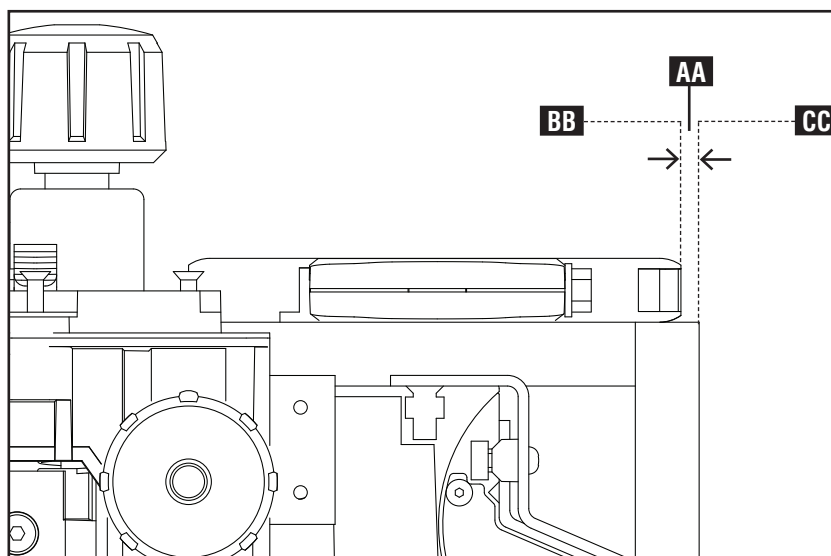

Fig. E24
NOTE: In Fig. E24, (BB) is the front edge of the fingers and (CC) is the front edge of the vertical board.
TO FIX: Loosen lock nut (Y) Fig. E25 and turn screw (Z) clockwise to bring template forward and fix the gap (AA) Fig. E24.